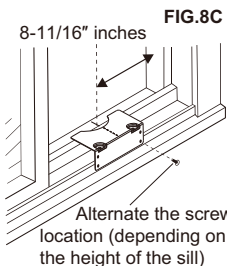

FIG.8C
1. Place the support bracket on the window sill as shown (FIG.8C). Using the holes in the support bracket as a guide, mark and drill two 1/8" diameter holes.
3. After apply the track seal, use two 3/8" screw (item 17) to fixing the support bracket. Make sure the support bracket is level form side to side. Proceed to Step 9 after you finish fixing the support bracket.